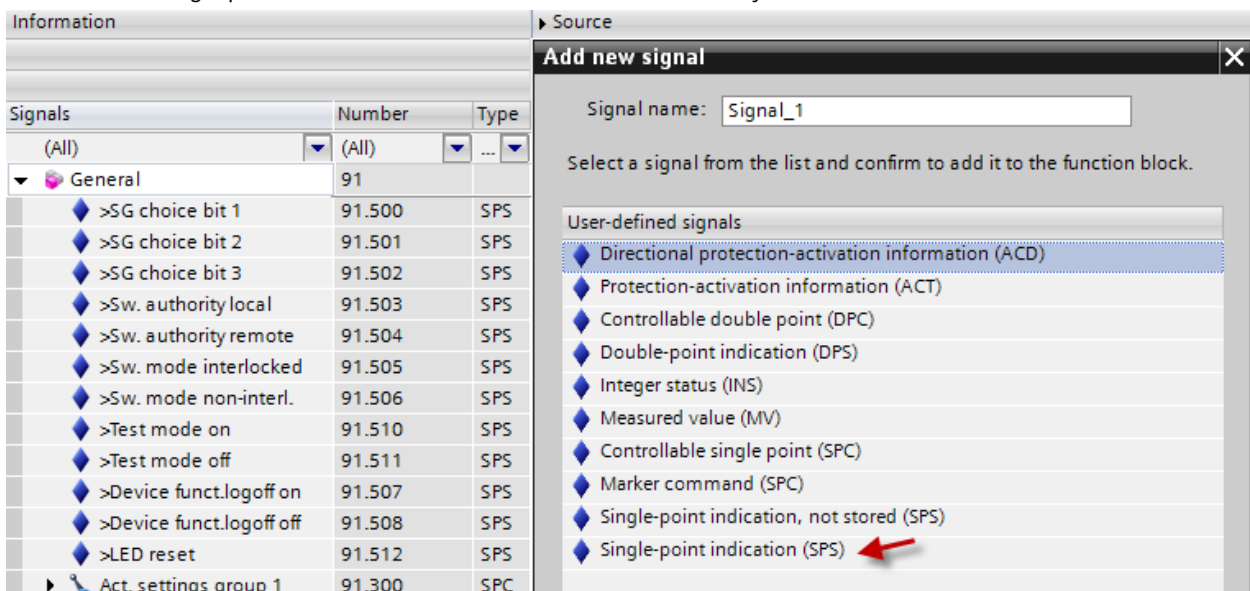

Figure 1: Function block „general“ in the editor „information routing“
2. Open the function block „general“and add two new single-point indications (SPS). Select the function block „general“ with the mouse and open the dialog “Add new signals” with the right mouse button, see figure 1. The single point indication will be routed to both function keys.